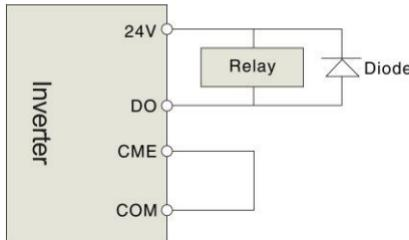
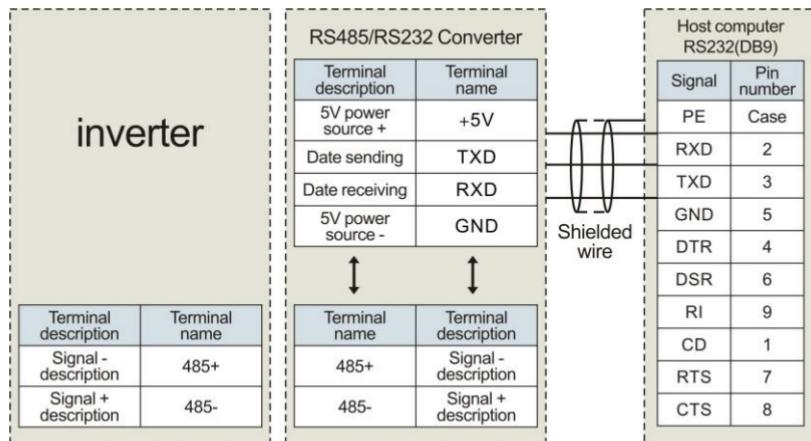

Figure 3-12 Schematic diagram of the digital output terminal wiring
Fig. 3-13 RS485-(RS485/232)-RS232 communication wiring
(3) Multi inverters can communicate via RS485, controlled by PC/PLC as a Master shown as Fig.3-12. It also can be controlled by one of inverters as a Master shown as Fig.3-13